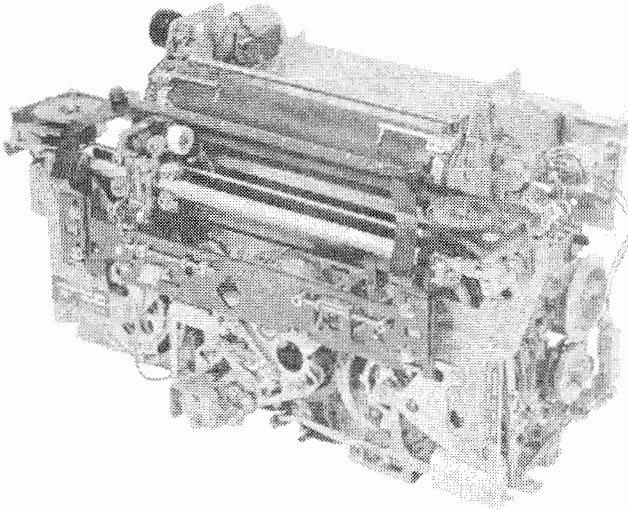

Figure 2 - 37 Typing Unit
- 2.04 The typing unit (Figure 2) receives information serially by means of a single magnet (two coils) type of selector. A function box is provided for character and character sequence recognition.